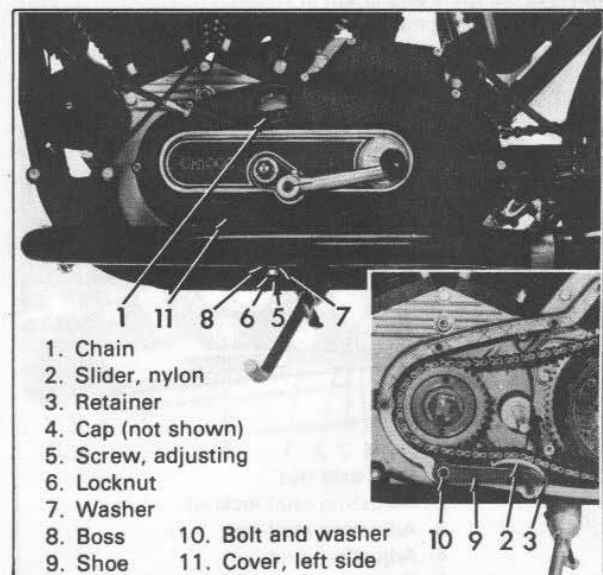

Figure 2-2. Front Chain Adjuster (1977 and Later)
ADJUSTMENT (1977 AND LATER) (Figure 2-2)
The front chain can be adjusted without removing the chain cover. Adjustment is made by loosening locknut (6), Figure 2-2, and turning the slotted adjusting screw (5) IN for tightening or OUT for loosening.
REPLACING ADJUSTER ASSEMBLY (Figure 2-2)
To replace chain adjuster (2) remove drain plug and drain oil from chain case. Remove gear shifter pedal, footrest, chain case cover and gasket. Chain adjuster (2) must be replaced as an assembly when slider material is excessively worn or damaged. To replace, relax chain tension by unscrewing chain adjuster screw (5, Figure 2-2), and remove adjuster. Remove spring from old adjuster and assemble to new adjuster.